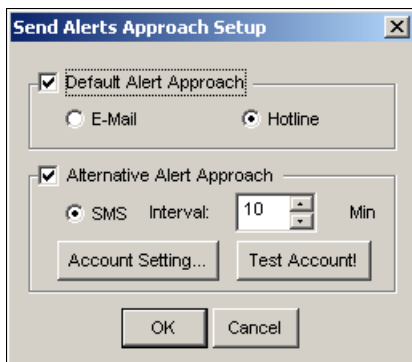

Figure 10-12 Send Alerts Approach Setup
7. Click the **Test Account** button (Figure 10-12). If the connection of both devices is established, the message will appear: *Login SMS Server OK!* If the connection fails, the message will appear: *Connect to SMS Server Fail.*
1. Open the **Send Alerts Approach Setup** dialog box (Figure 10-12).